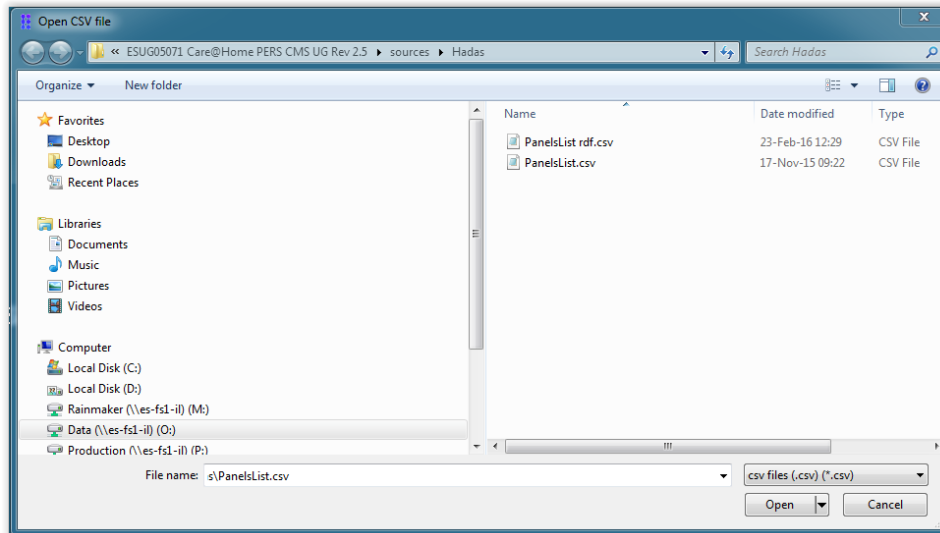

Figure 109: Open CSV File Window
- For the **Panel List** field, click . The **Open CSV File** window appears, as in Figure 109 below.